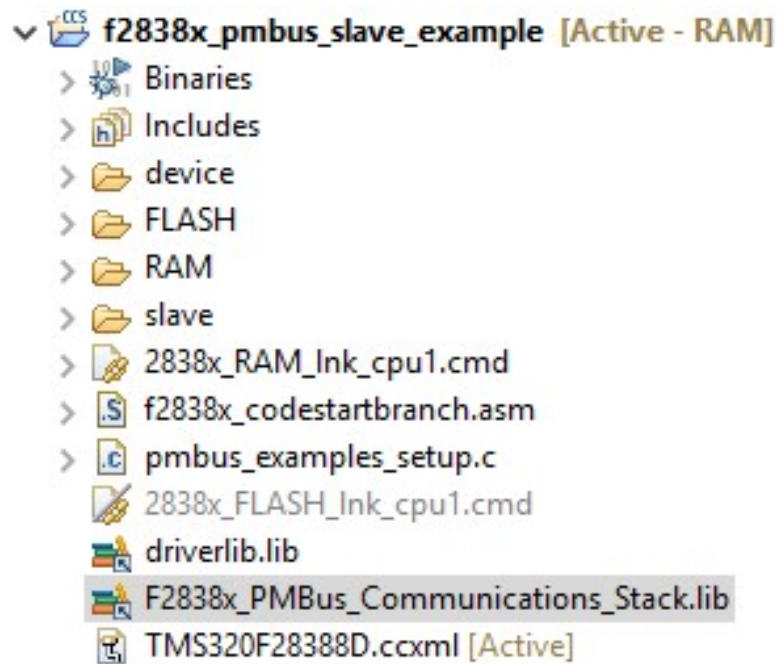

Figure 4.3: Adding the library and location to the file search path
2. Add the Communications Stack library (replace "device" with F28002x, F28004x, F2838x, F28003x), F280015x F28P55x or F28P65x, '**<device>\_PMBus\_Communications\_Stack.lib**' to the project explorer as shown in Fig. 4.3. Also add the device driver library.